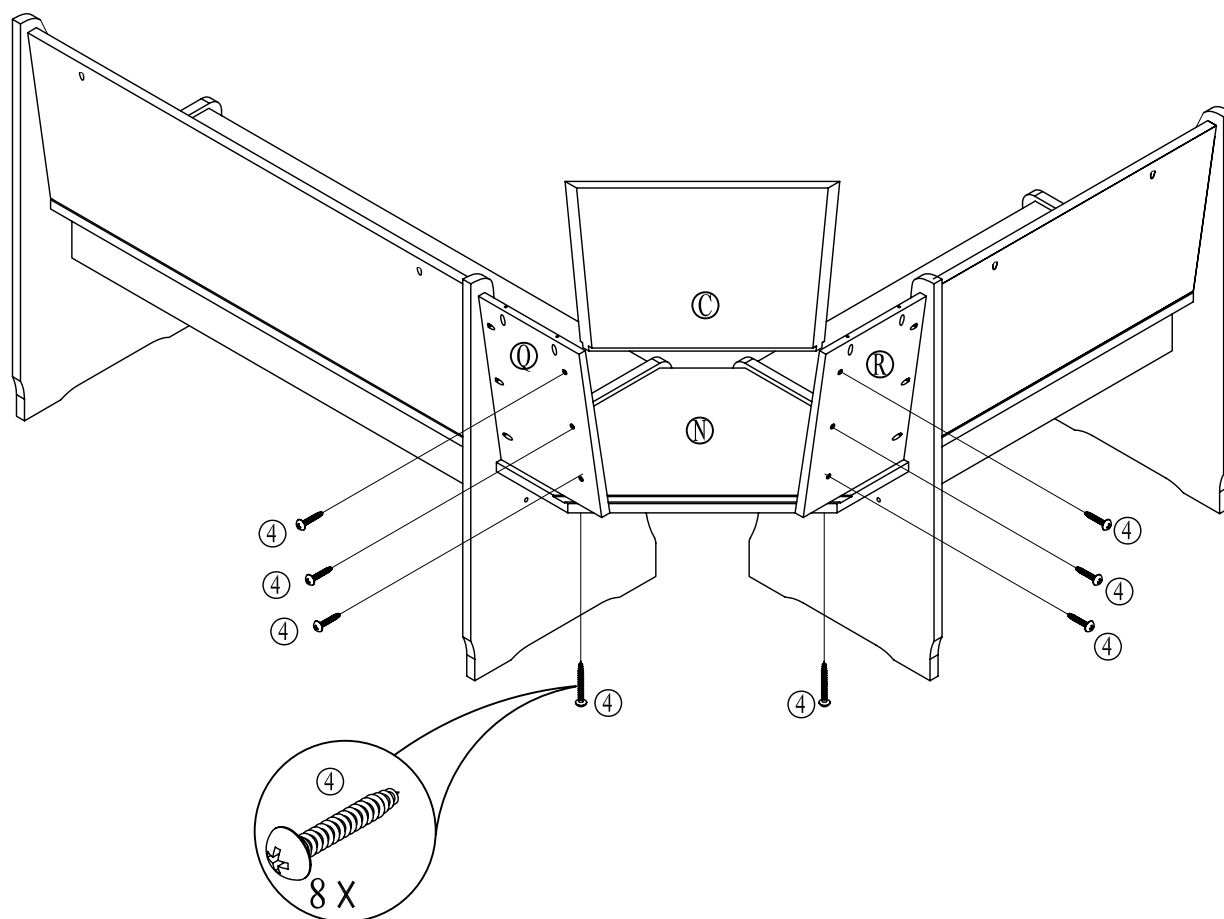

FIGURE 6
CONNECT CENTER BACK PANEL #C WITH CORNER BACK PANEL #Q AND #R. INSERTING (06) SCREWS ④ THROUGH HOLES LOCATED UNDERNEATH OF CORNER BACK PANEL #Q AND #R REACHING THE CENTER BACK PANELS #C. THEN INSERTING (02) SCREW ④ THROUGH THE PILOT HOLE YOU WILL FIND UNDERNEATH OF CORNER TOP PANEL #N INTO THE CORNER BACK PANEL #Q AND #R, AS SHOWN IN FIGURE 6.